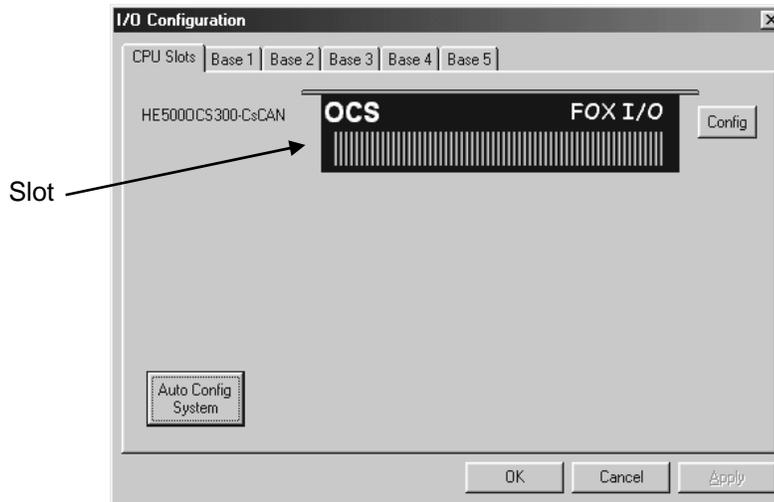

Figure 6.1 - Main Configuration I/O Screen
- a. Ensure that the **CPU Slots** tab is pressed in Figure 6.1. Also, click on the slot or the **Config** button to open a dialogue screen.